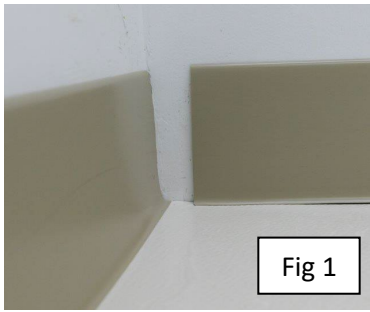

Fig 1
- Set another piece of TightLock wall base on opposing wall without adhesive, butting it to the installed piece. (Fig. 1)